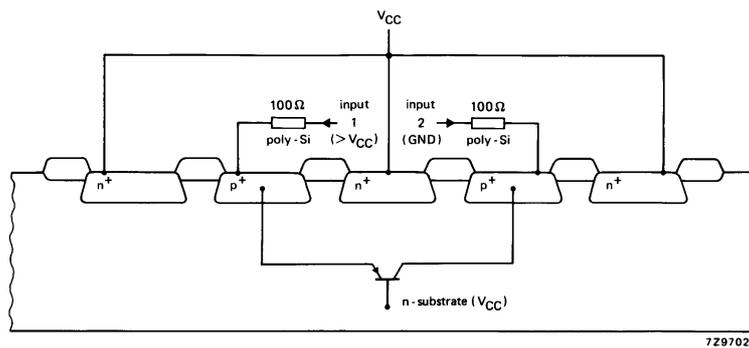
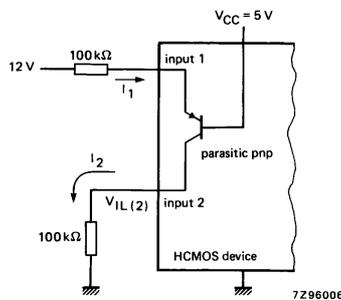

Fig.30 Cross-section of the input protection of an HCMOS device showing the parasitic pnp transistor between adjacent inputs.
Fig.31 12 V-to-5 V logic-level conversion at HCMOS inputs using 100 kΩ series resistors.
Parasitic bipolar pnp transistors can be present between adjacent inputs, e.g. between an input protection diode to  $V_{CC}$  and the same diode at the adjacent input, as shown in Fig.30. If the recommended operating input voltage is exceeded, perhaps by ringing of more than 0.7 V, current into the terminal ( $I_1$ ) can cause a current  $I_2$  in the parasitic transistor and in the adjacent input (Fig.31). Because  $I_2$  in the adjacent input has to be drained by the source driving that input, the source resistance (R) must be low. If R is not low enough, the parasitic current can lift the source voltage and cause unwanted switching.
A low  $\alpha$  permits proper logic operation in the presence of transients and also allows HIGH-to-LOW voltage translation simply by adding series input resistors. For example, in Fig.31, 12 V system logic is converted to 5 V system logic by adding a 100 k $\Omega$  resistor in each input. Since the logic signals are delayed by 1-2  $\mu$ s, this arrangement is suitable for rather slow 12 V control logic such as that in automotive applications. When the input diodes are used as clamps for logic level translation, the total input current should be limited to 20 mA.